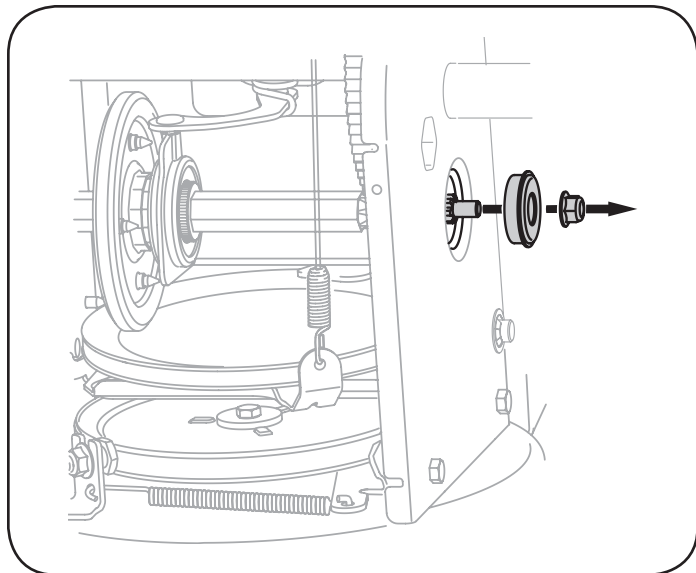

Figure 73
6. Carefully remove the hex nut and washer which secures the hex shaft to the snow thrower frame and lightly tap the shaft's end to dislodge the ball bearing from the right side of the frame. See Figure 73.